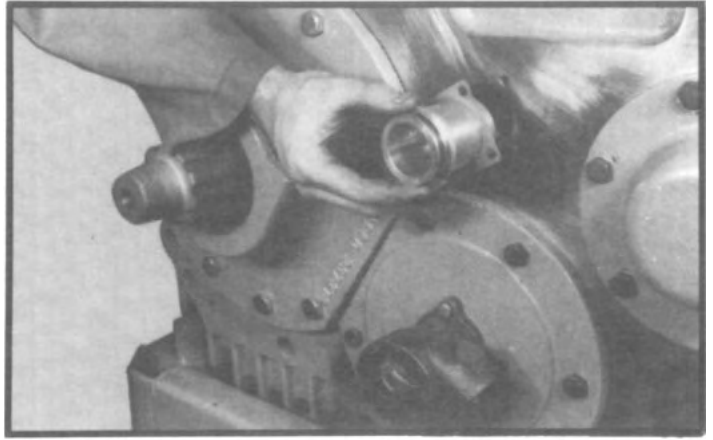

Fig. 22
11. Remove the adapter tube from the case. Discard the o-ring from adapter tube. (See fig. 22.)